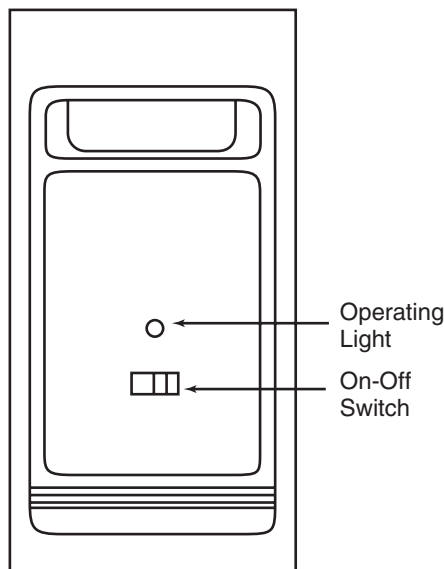

Figure 20
1. Make sure 120VAC power is turned on at the circuit breaker which serves the air handler. Slide the air cleaner switch into the "ON" position (Figure 20).
2. Push the ON-OFF switch on the power pack to the "OFF" position (Figure 20). Wait 15 seconds for the power pack and collecting cell(s) to automatically discharge.